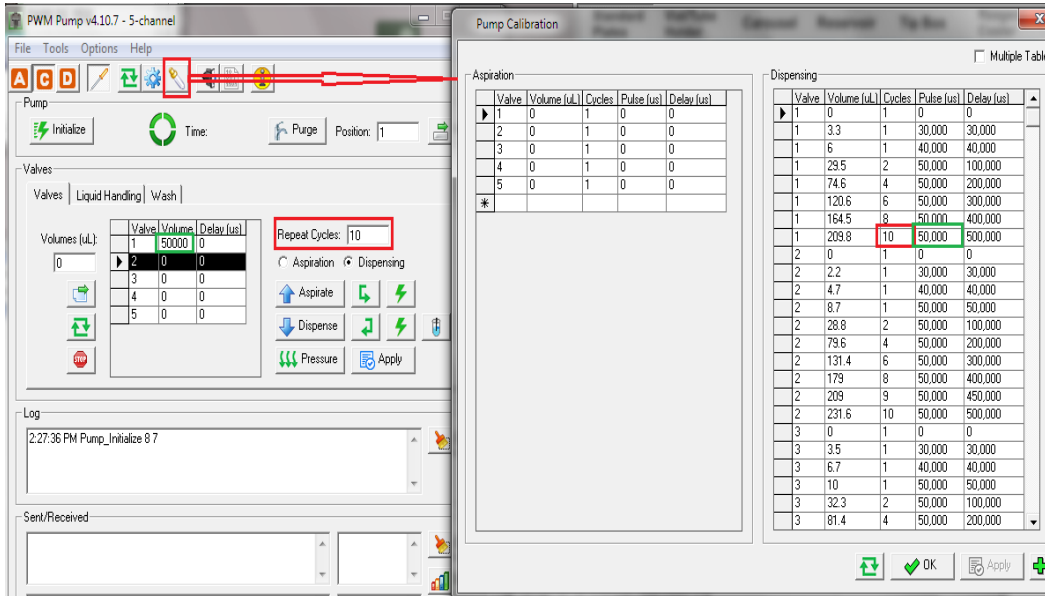
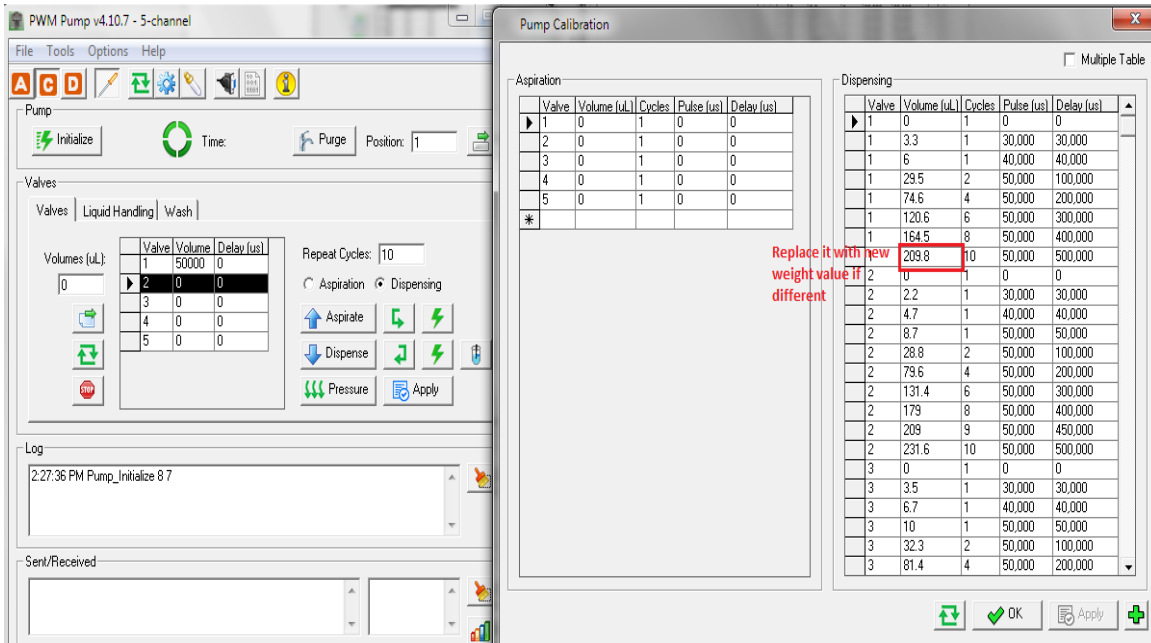

Figure 9-35 Add pulse & repeat cycle
Figure 9-36 Add new volume/weight value
e.g. Add pulse value 50000, repeat cycles 10 as shown in *Figure 9-35 Add pulse & repeat cycle*, switch to pin # 2 (add 0 value for all other 4 pins) apply, dispense (new reagent or with new pressure setting) in a pre-tared weighing boat to check weight on a balance or in a tube to check the volume with a pipettor. Add this new weight/volume value in the calibration table & switch records to add the new volume/weight as shown in *Figure 9-36 Add new volume/weight value*. This way, check all the pulse values & repeat cycles which are there in the table like up to 30000 & keep adding the new weight values in the table. This is just repeating the table pulse time & cycles with new reagent or pressure setting as with pressure & different reagent weights/volumes change.